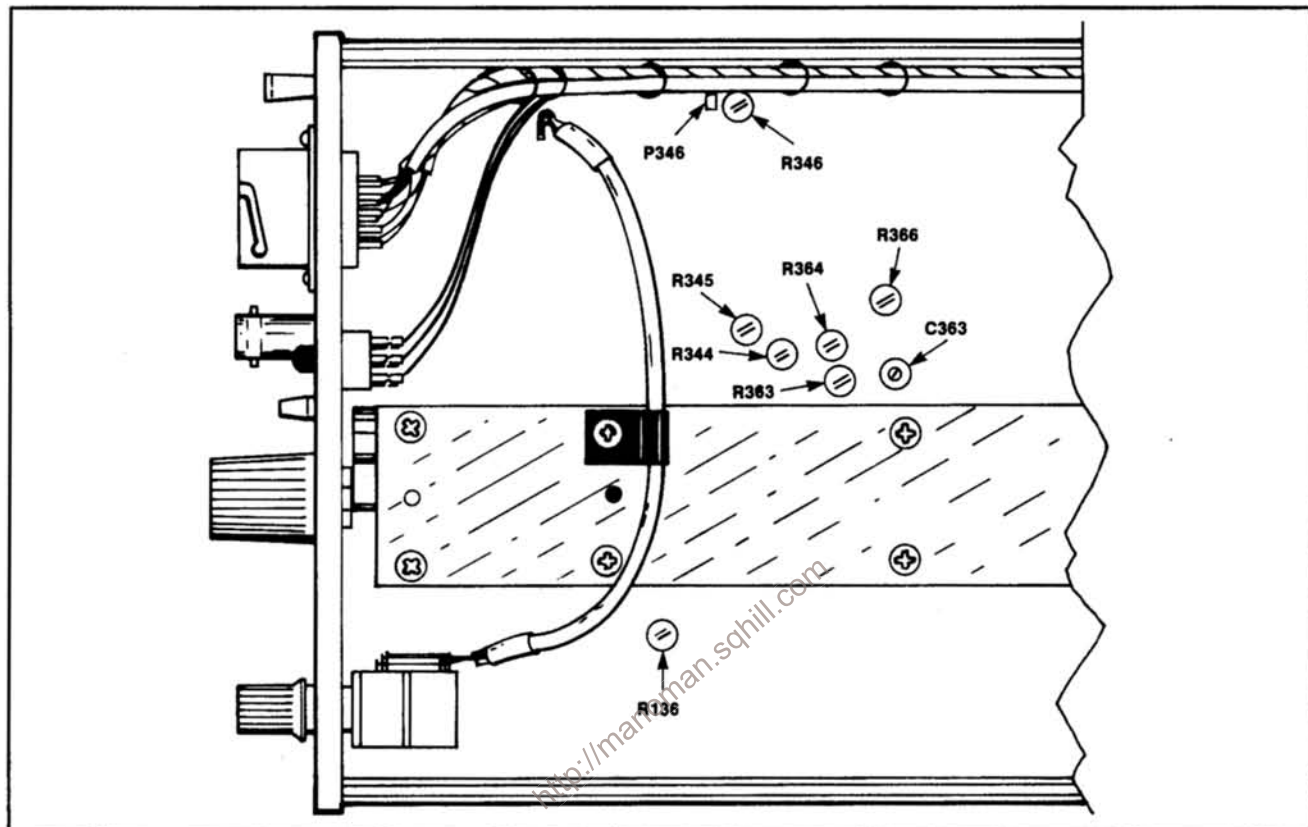
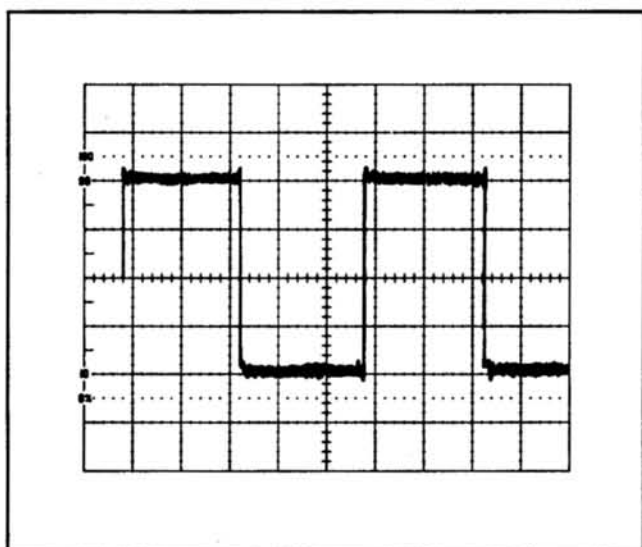

Fig. 3-3. Gain and compensation adjustment locations.
Fig. 3-4. Example of correct compensation.
Replace Fig. 3-3, Fig. 3-4, and steps d through h of part 3, "Adjust Compensation", with the new steps d through i, beginning on page 3-4, as follows:
- h. Adjust—R364, R345, C363, and R363 for optimum compensation. Refer to Fig. 3-4 for example.